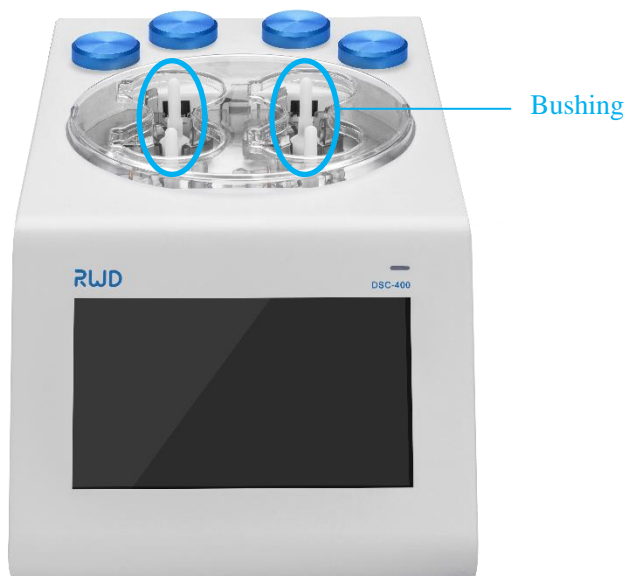

Figure 4-1
- 3) Insert the white bushing into the channel connector of the device, as shown in Figure 4-1.